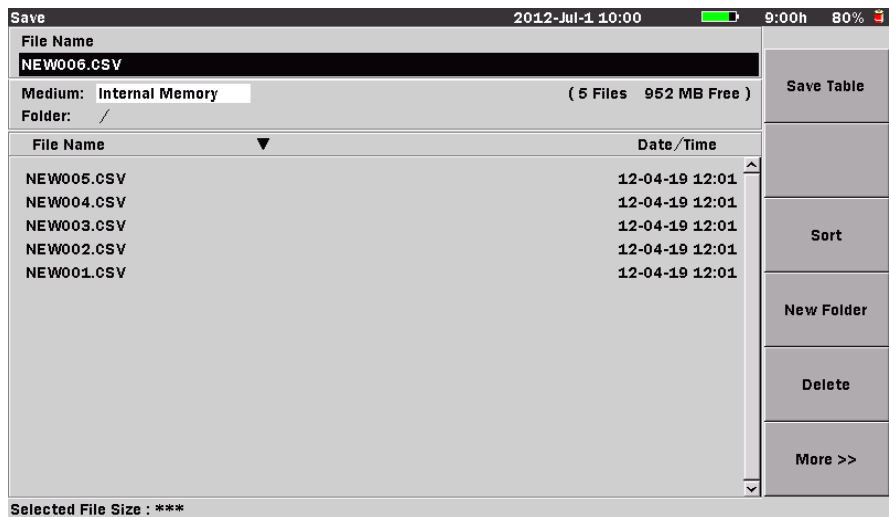
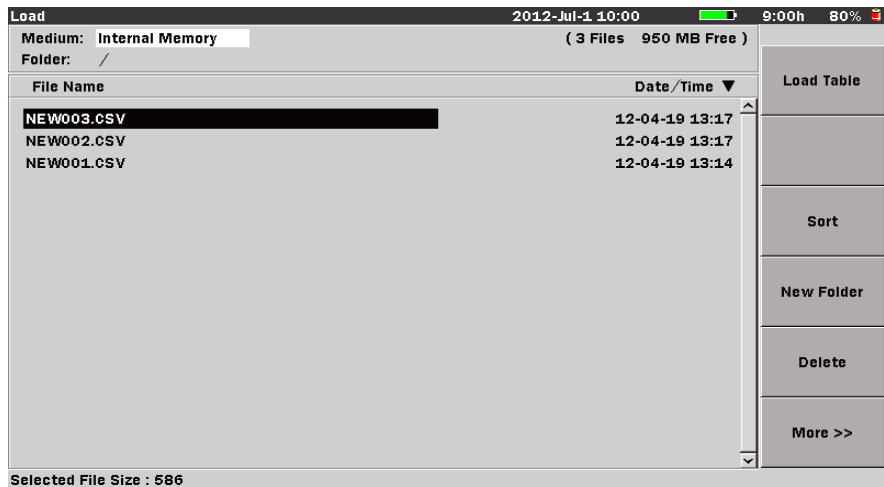

Figure 8-13: Save screen – Loss Test Set mode
Figure 8-14: Load screen – Loss Test Set mode
1. Press the **Save** key. The Save screen appears with the File Name field highlighted (see Figure 8-13, below).
Use either the Save screen (see Figure 8-13 on page 8-34) or the Load screen (see Figure 8-14 on page 8-39) to delete any data files stored in the internal memory or on a USB memory stick. You can delete a single file, multiple files or all of the files in the current directory.
1. Press the **Save key**, or the **File key**, if not already displaying either the Save screen (see Figure 8-13 on page 8-34) or the Load screen (see Figure 8-14 on page 8-39).
Use either the Save screen (see Figure 8-13 on page 8-34) or the Load screen (see Figure 8-14 on page 8-39) to copy data files stored in the internal memory or on a USB memory stick. You can copy a single file, multiple files or all of the files in the current directory.
1. Press the **File** key. The Load screen appears (see Figure 8-14, below).